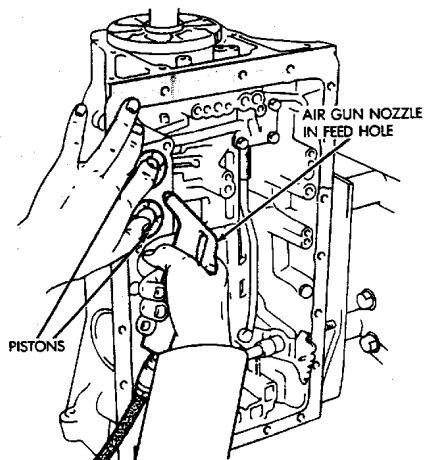

Fig. 31 Removing Accumulator Pistons
(1) Remove valve body. Refer to procedure in this section.
(2) Remove accumulator pistons with compressed air (Fig. 31). Apply air through small feed hole next to each piston bore. Catch each piston in a shop towel as it exits the bore.